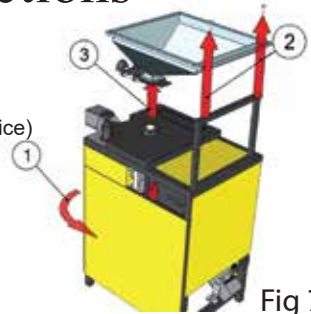

Fig 7.
1. Unlock the bolt as shown in figure 7.